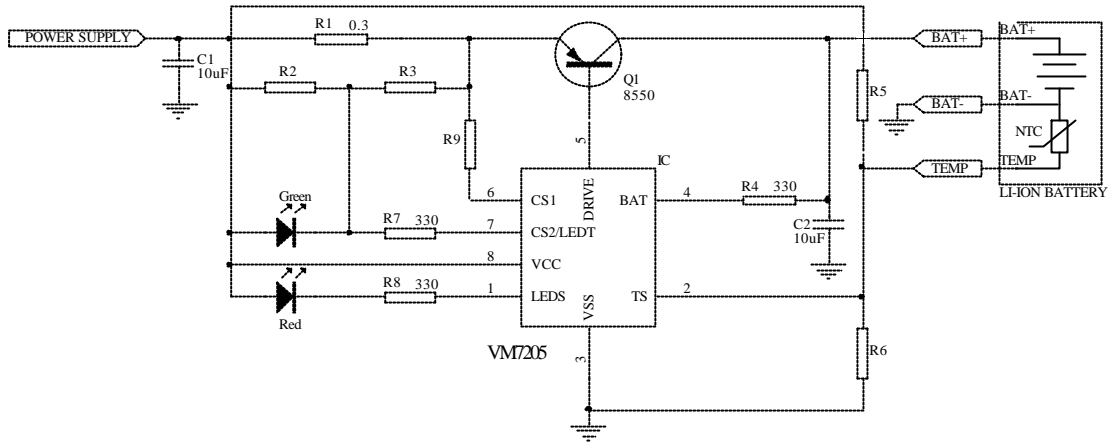
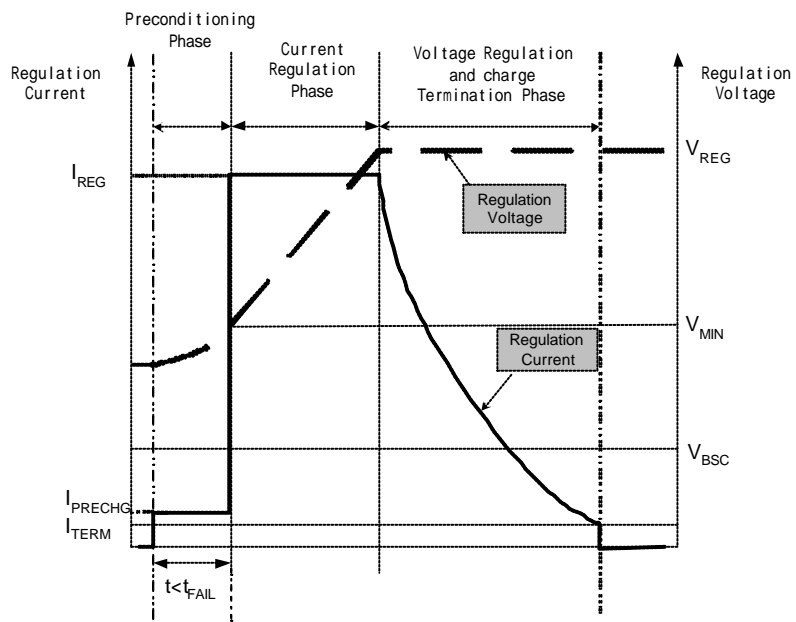
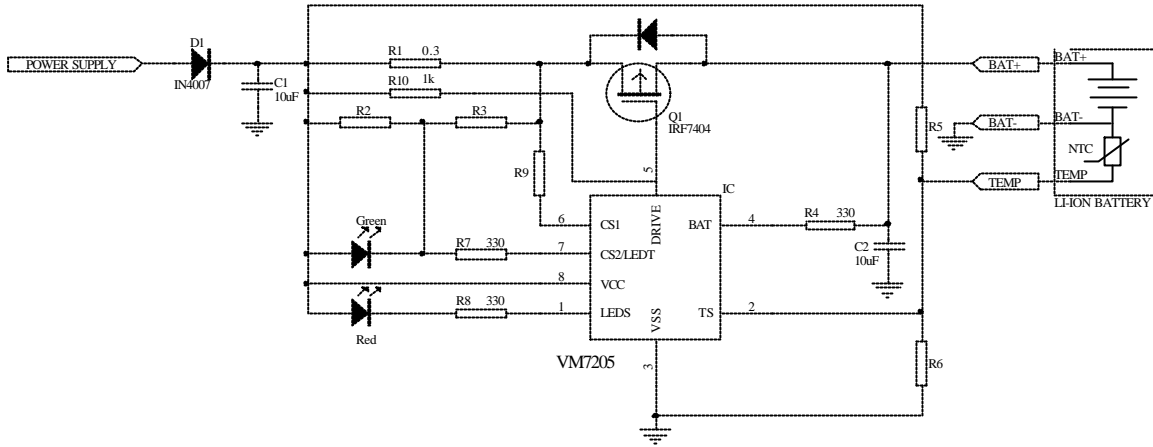
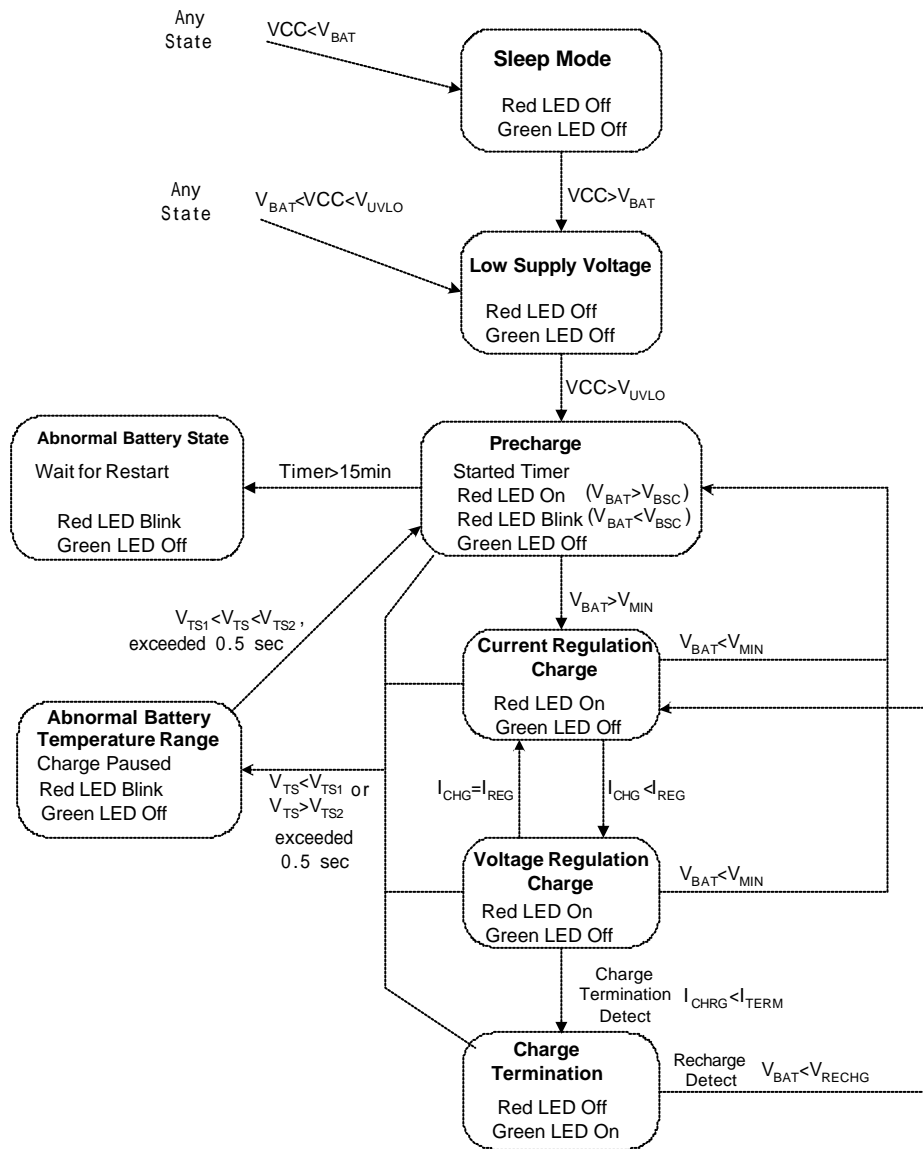

Figure 3 Li-ion/Li-Pol Charger Using a PNP Pass Transistor
Figure 4 Typical Charge Profile
Figure 5 A Charger Using P-Channel MOSFET
Figure 6 Operation State Diagram
2. Please use application circuit schematic in Figure 3 and Figure 5.
The VM7205 is an advanced linear charge controller for single Li-Ion or Li-Pol applications . Figure 3 shows the schematic of charger using a PNP pass transistor. Figure 4 is a typical charge profile. Figure 5 shows the schematic of a charger using P-Channel MOSFET. Figure 6 is an operational state diagram.
Charge qualification is based on battery voltage and temperature. If the battery voltage is below the precharge threshold V_{MIN} , the VM7205 uses precharge to condition the battery. The conditioning charge current I_{PRECHG} is adjustable with an external resistor R9 shown in Figure 3 and Figure 5. R9 is connected between CS1 pin and the emitter of external PNP or source of external PMOS. There is also an on-chip 5.1K resistor connected between CS1 pin and VCC. During precharge stage, the voltage drop between VCC and CS1 pin is V_{CSPRE} , so the precharge current is set to be
When power supply is 0V, the DRIVE terminal connects to the VCC via the internal pull up resistor, therefore a conducting channel is created between PNP pass transistor's Collector and Base. This can cause a battery leakage current form to leak through this PNP pass transistor and the internal resistor. For the charger with PMOS transistor, due to the existence of the internal protection diode, the battery can discharging via this protection diode and the internal resistor. To prevent such kind of leakage current, a reverse bias diode (D1 refer to Figure 5) is recommended.
Let's analyze Fig. 3, considering R2 is in parallel with LED Green, in addition, after finishing charging, R3 is in parallel with LED Green as well (R1 is very small so we can neglect its effect), therefore, both R2 and R3 cannot be too small or LED Green will be dim. Generally, we choose R2 and R3 over 3k . In order to determine the value of R2 and R3, we first find the equation between R2 and R3.
From Fig. 3, we can get: